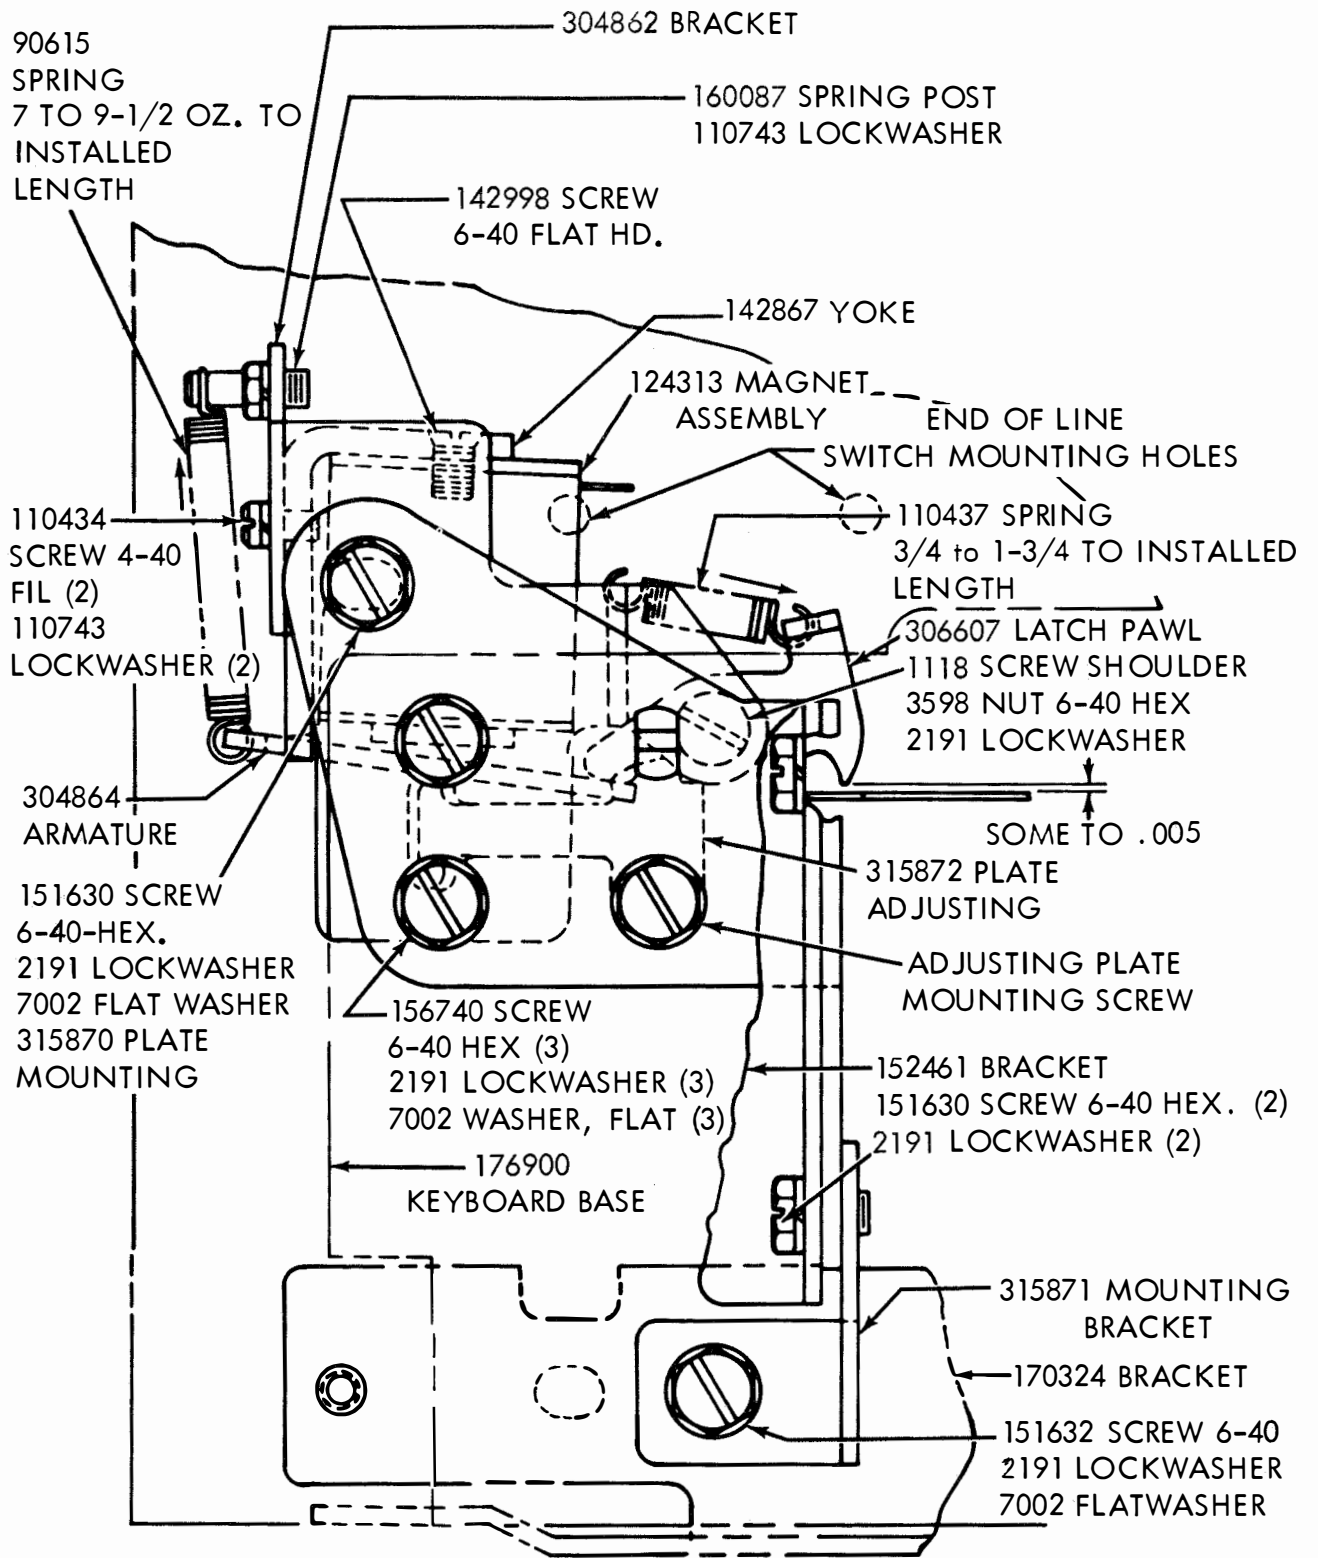
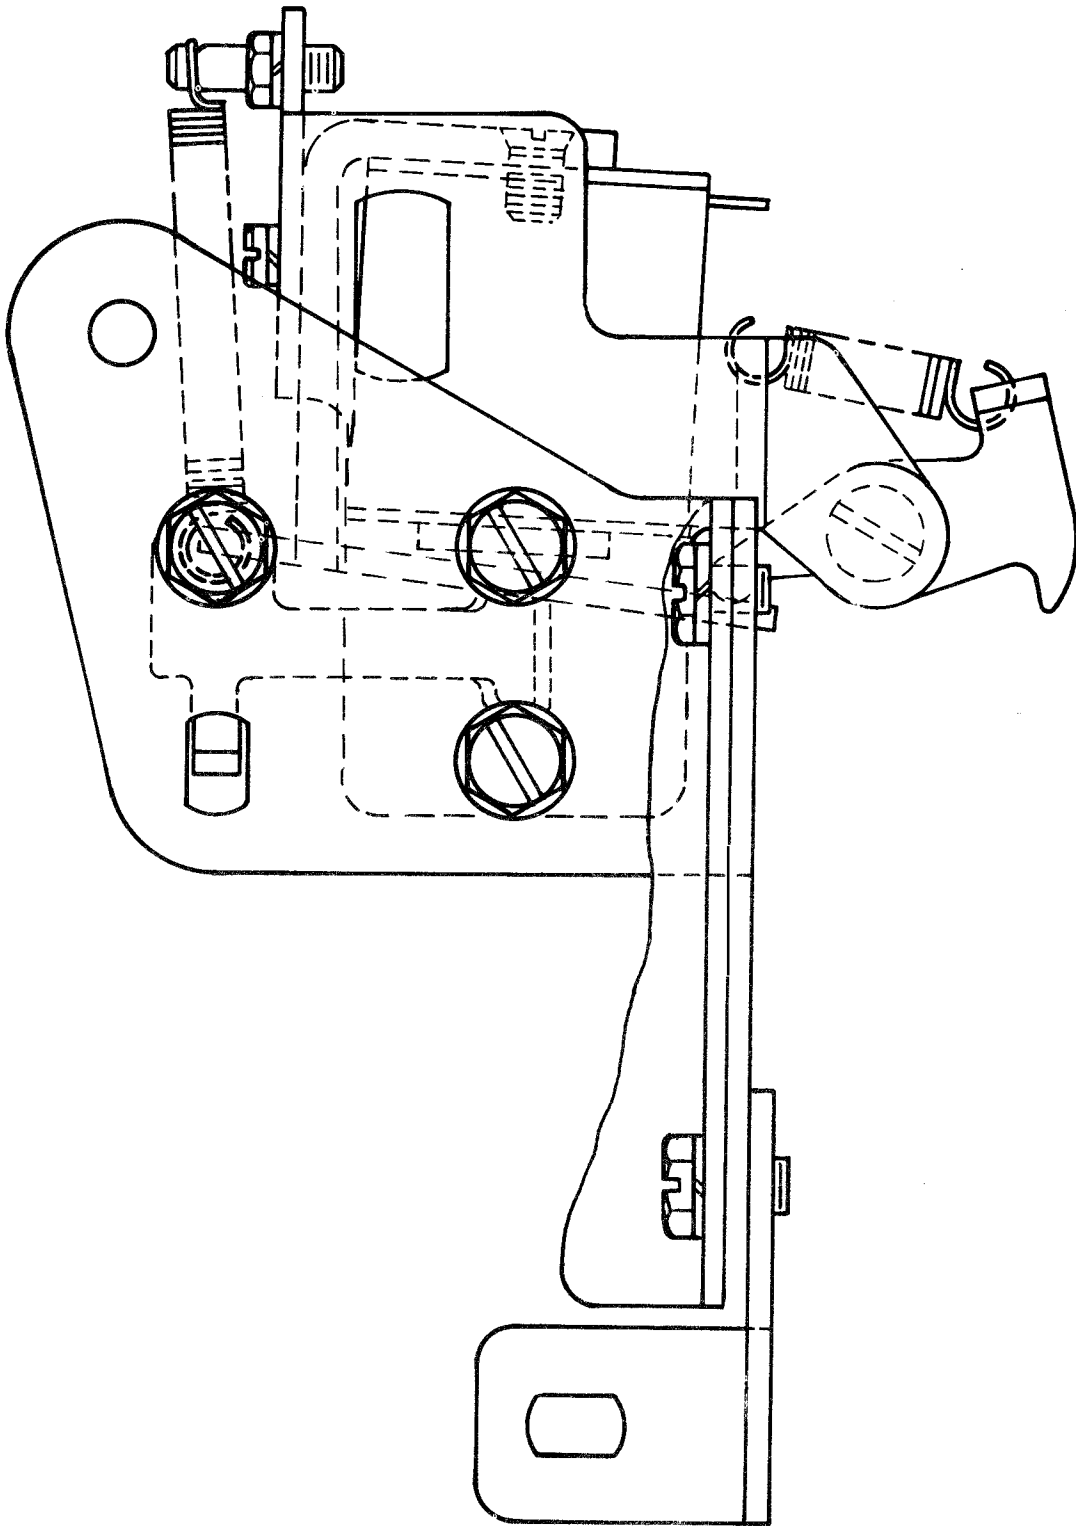

Figure 1 - Typical 35 Type Assembly
Figure 2 - Typical 28 Type Assembly
- 2.06 Preassemble the magnet assembly for Model 35 equipment as shown in Figure 1 and for Model 28 equipment as shown in Figure 2. Check spring tensions at this time. Refer to Par. 3.04 through 3.06.
3.03 Requirement: With keyboard clutch engaged and the armature released, there should be some to 0.005 inch clearance between the latch pawl and the clutch trip codebar (Figure 1).
3.04 Spring tensions (Figure 1).